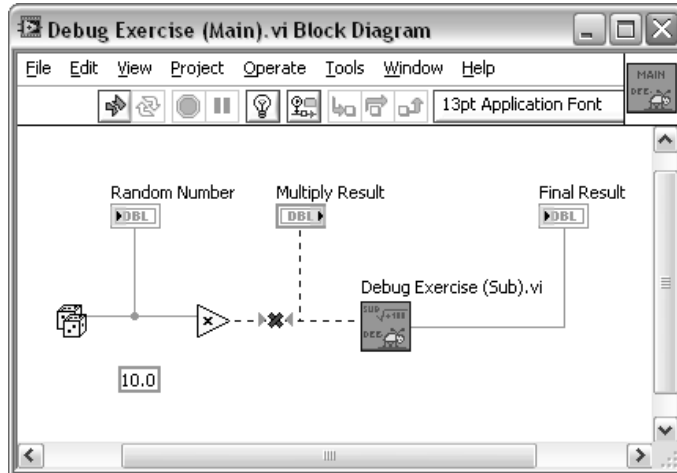

Figure 3-7. Debug Exercise (Main).vi Block Diagram
- Select **Window»Show Block Diagram** to display the block diagram shown in Figure 3-7.